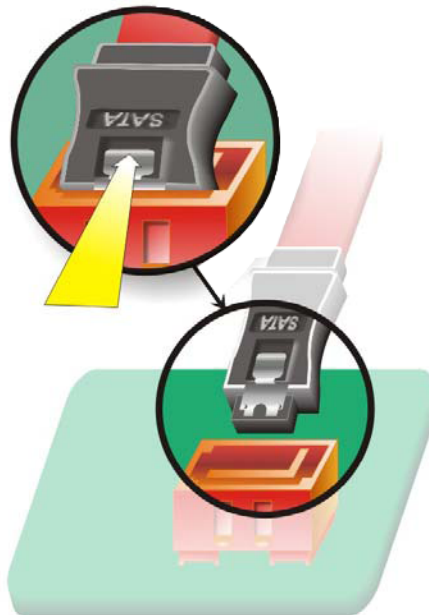

Figure 5-13: SATA Drive Cable Connection
Step 2: Insert the cable connector. Press the clip on the connector at the end of the SATA cable and insert the cable connector into the on-board SATA drive connector. See **Figure 5-13**.